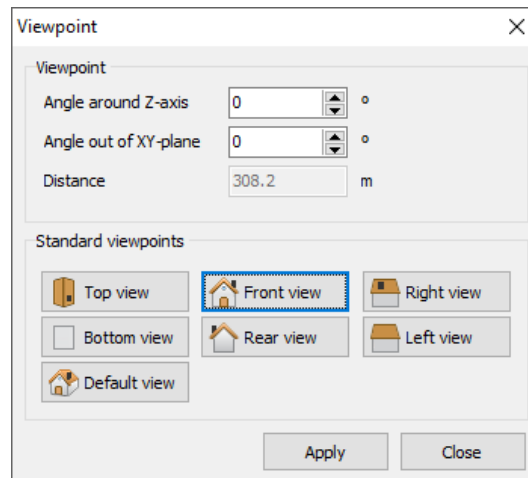

Figure 105: Viewpoint window
5. In the **Viewpoint** window select the **Front view** option as shown in Figure 105 (on page 129):